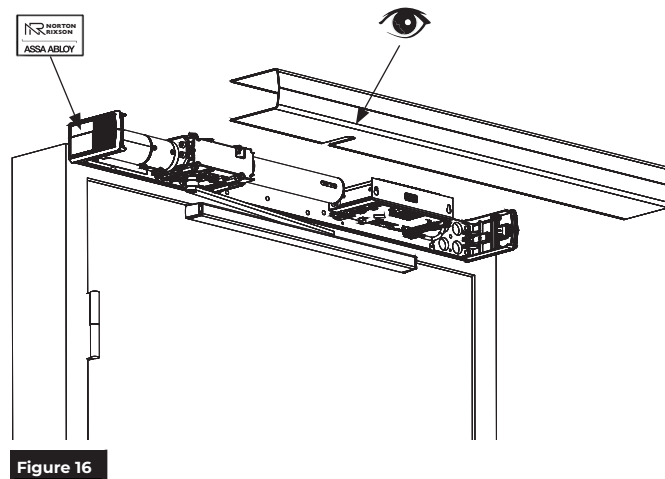

Figure 16
1. Align cut-outs in cover to pinion shafts. (Figure 16)
4. Attach a label plate to each end cap by snapping into place by hand with gentle pressure. (Figure 16)